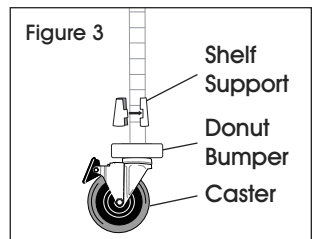

Figure 3
3. Snap the interlocking pieces of a shelf support (wide end down) around the post at the lowest groove where shelf is to be located. Slide the support up or down until it snaps into the groove. Add a shelf support to the same place on the remaining posts. (See Figure 3)